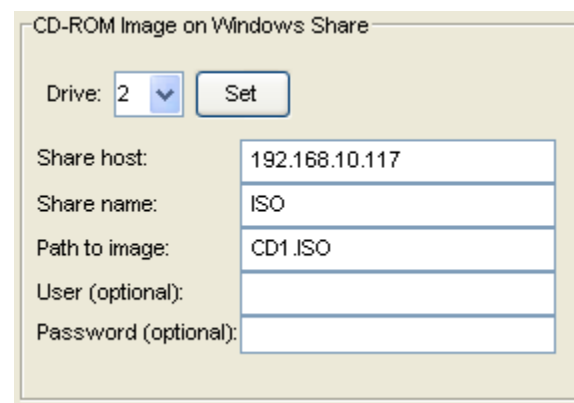

Figure 12-3
Please refer to Figure 12-3 for the following items.
User/Password (Optional): Enter the user and password for the person to access the data that you want to share, and click the <”Set>” button to enter your selections as shown in Figure 12-3.
- Email: displays an “Email-Alert Settings” dialog box (see Figure 12-3). Fill the “SMTP server”, “From (email address)” and “To (email address)” fields. The “From” and “To” addresses must be valid in the SMTP server. If the SMTP server requires authentication, please enter the username and password. Once entering needed information, click the <Test> button to verify if your email works properly.